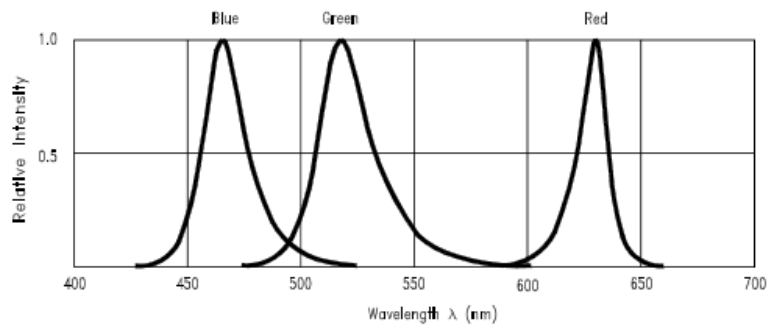

Fig.1 Relative Intensity vs. Wavelength
| Peak Emission Wavelength | λ P    | TYP. | 632.0            | 518.0 | 468.0 | nm   | Measurement @Peak (Fig.1) |
1. The output spectrum of red color will be guaranteed to meet single peak spec.(Fig.1).